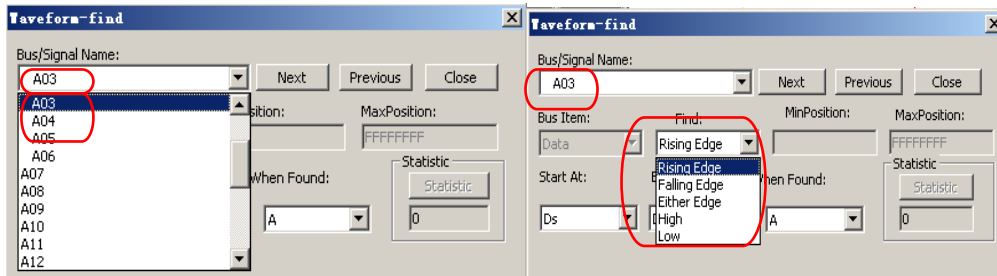

Fig 3-104: Waveform-find Dialog Box of the Logic Signal
- Step 3.** Choose the character for Find. The list of characters depends on whether it is a Bus, Signal, or the Protocol Analyzer such as IIC/ UART/ SPI...etc that is being searched (see Figs 3-104, 3-105, 3-106, 3-107, 3-108, 3-109, 3-110 and 3-111).